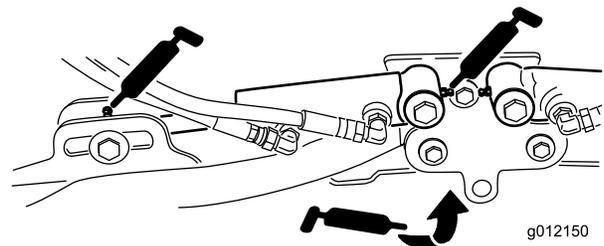

Figure 54
- Cutting unit lift arm cylinders (2 each) (Figure 54)
- Lift arm pivots (1 each) (Figure 54)